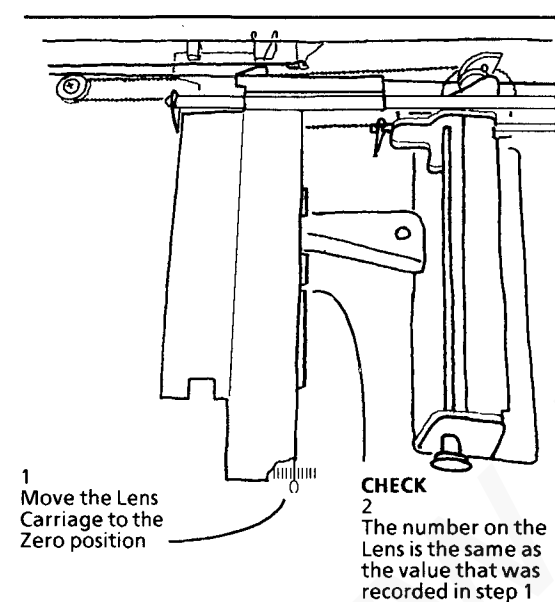

Figure 1. Checking the Lens Number
5. Check the Lens number (Figure 1).